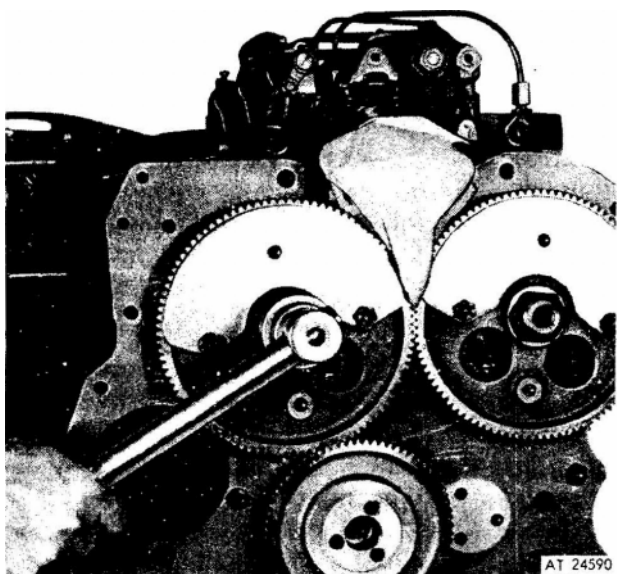

Figure 1. Removing or installing nut on camshaft or balance shaft
7. Wedge a clean rag between the gears as shown in figure 1; then, remove the nuts from each end of both shafts with a socket wrench.